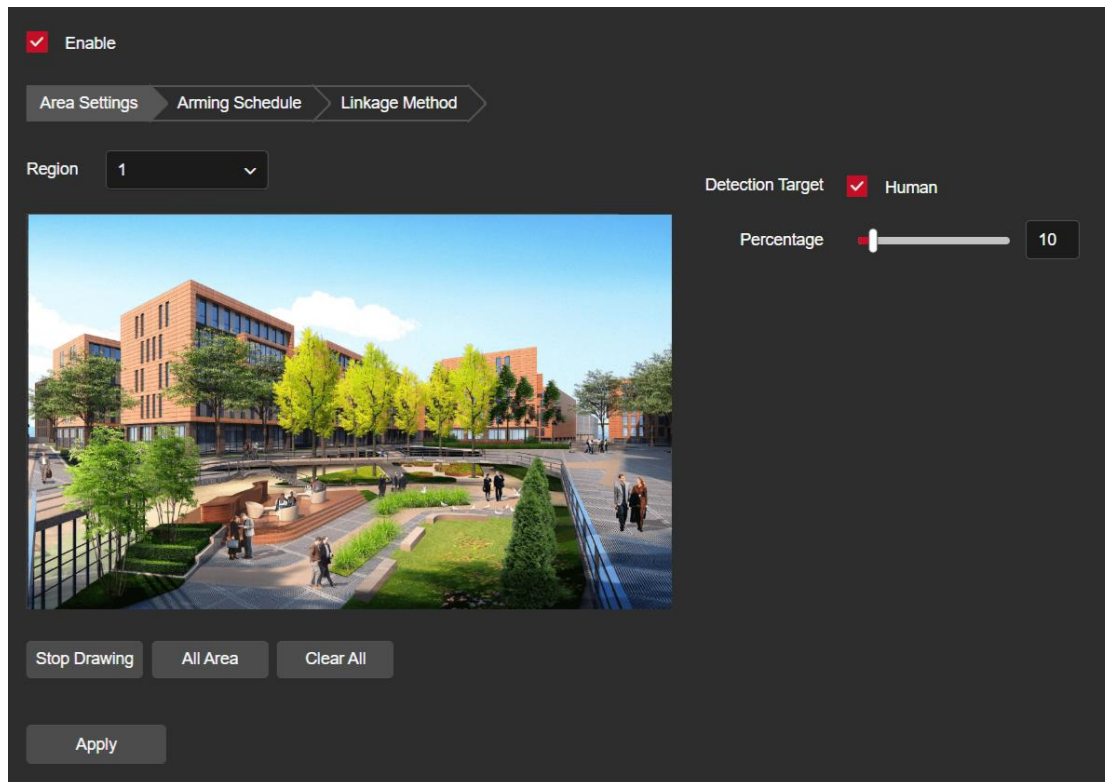

Figure 8-6-36
Step 1: In the main interface click on the "Configuration → Event → Smart Event → People Gathering" to enter the People Gather Detection settings interface, as shown in Figure 8-6-36.